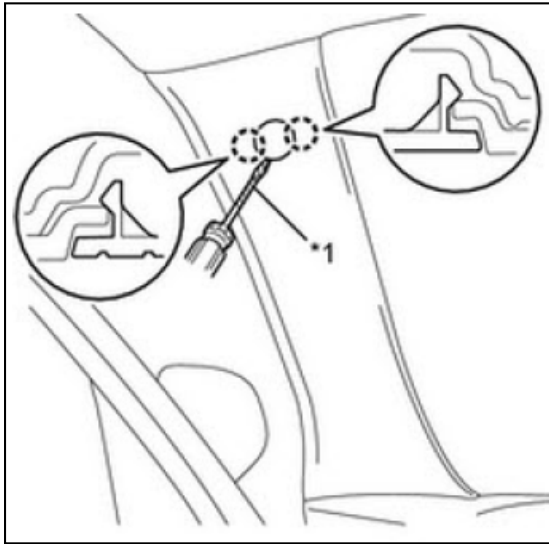

Figure 6
6. Using a screwdriver, detach the 2 claws to remove the No. 1 front pillar garnish cover LH. See Figure 6.